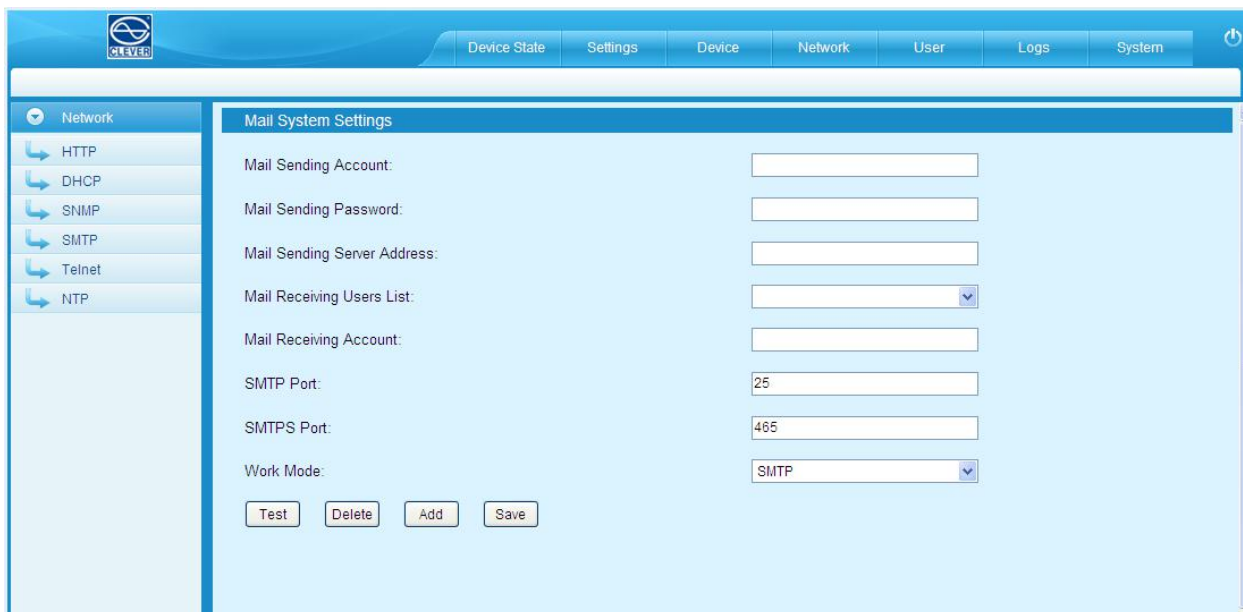

Figure 1-11
5) SMTP settings: Click SMTP from the network navigation tab to enter the SMTP setting as figure 1-11